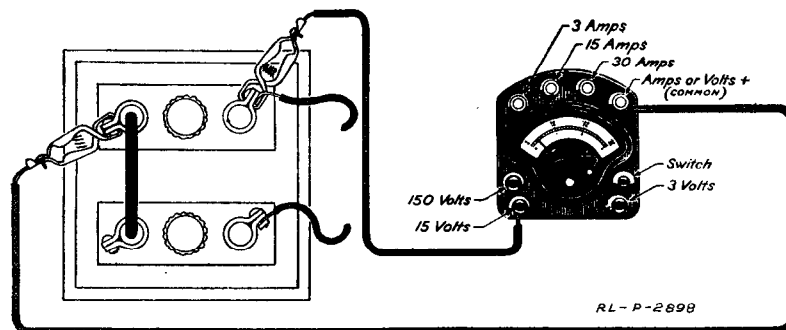

Fig. 10.—Method of measuring the voltage of one cell of a storage battery.
6. Measure the voltage of one cell by clipping the meter leads to the cell terminals as shown in Fig. 10. Record the reading in the table.